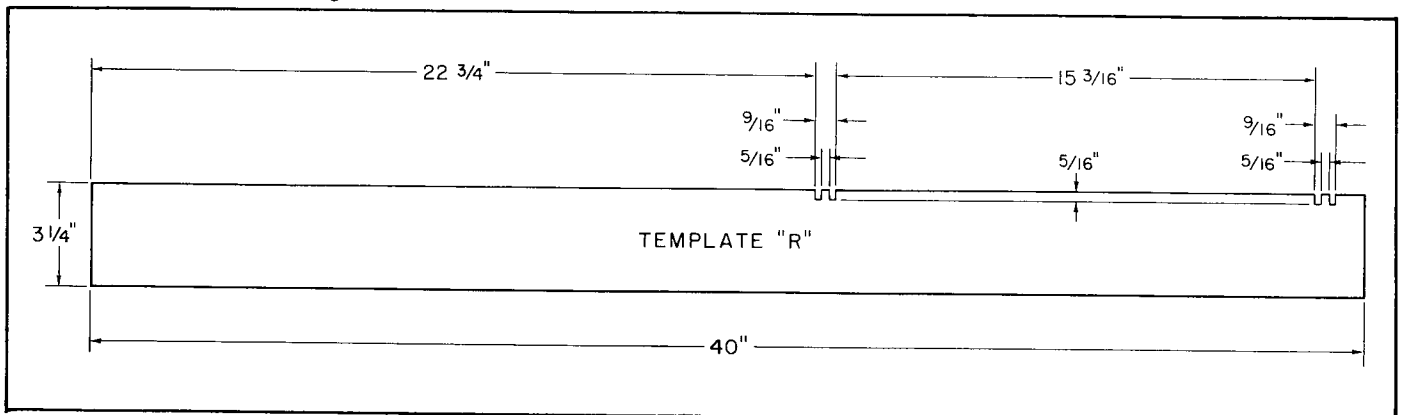

Fig. 26
9. Make a template (R) according to the dimensions, shown in Fig. 26, using a piece of cardboard from the packing material.